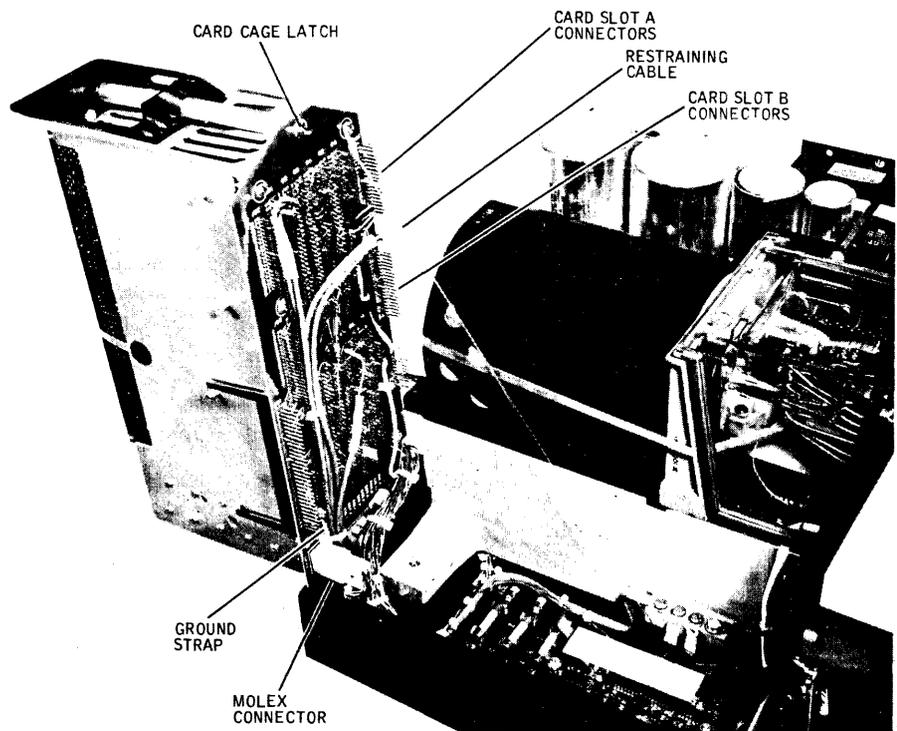

Figure 3-7. Card Cage in Raised Position
To gain access to card connector test points (see Figure 3-7), unlatch the card cage by turning the knurled knob located between the air-directing wings of the card cage one-quarter turn counterclockwise, and raise the card cage assembly on its hinges so that it rests against its restraining cable in the open position. The disk drive may be operated in this open position for test purposes. However, if extended, vigorous seek exercising is to be performed, the card cage assembly should be closed to restore forced-air cooling for the circuit cards. The Servo Control card is particularly prone to overheating in the open position.
6. See Figure 3-7. Notice several multi-wire cables and separate wires are connected directly to circuit card connector pins using push-on-type connectors. Disconnect and tag each of these wires with the connector pin number from which they were removed. Clip all tie wraps and loosen any cable clamps that hold the disconnected cables and wiring to the card cage assembly.
10. To install the repaired assembly or a replacement, reverse this procedure. When tightening the four hinge screws that mount the card cage assembly, it is helpful to have the assembly closed and latched. This will ensure proper latch alignment. Refer to Figure 3-7 when reconnecting the back plane cables for proper cable dress, and replace all securing tie wraps and cable clamps.